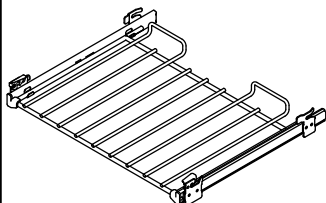

Fig.2-19
- 1 set of side supports (**Fig.2-19**)